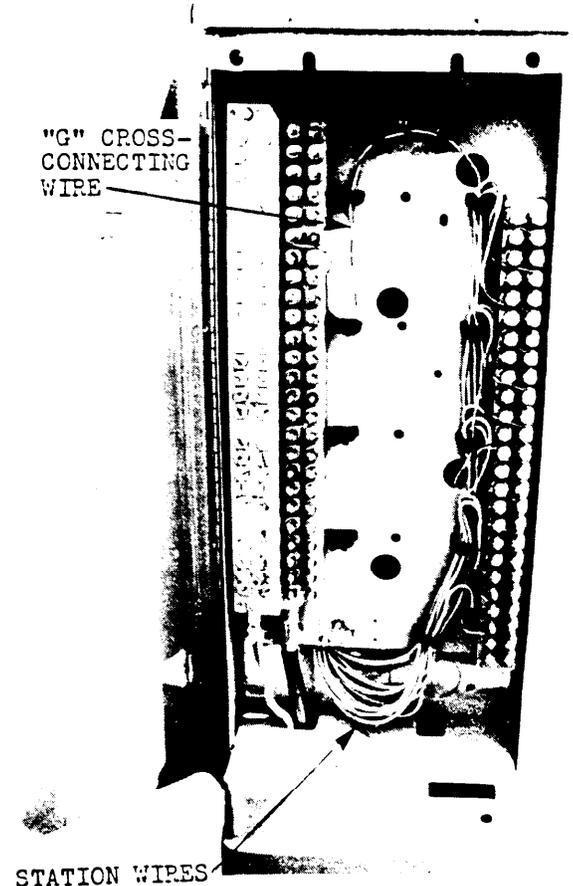

Fig. 11 - Terminated Service Wires
- 7.01 Route the station wire up the left-hand side of the connecting block to the assigned binding post as shown in Fig. 11 and terminate as follows:
- 8.01 The method of running G cross-connecting wire (white-violet) from the 119A1-25 connecting block to the 199-type protector is illustrated in Fig. 11 and as follows:
- (d) Route the other end of the cross-connecting wire through the wire guide to the protector block as shown in Fig. 11.